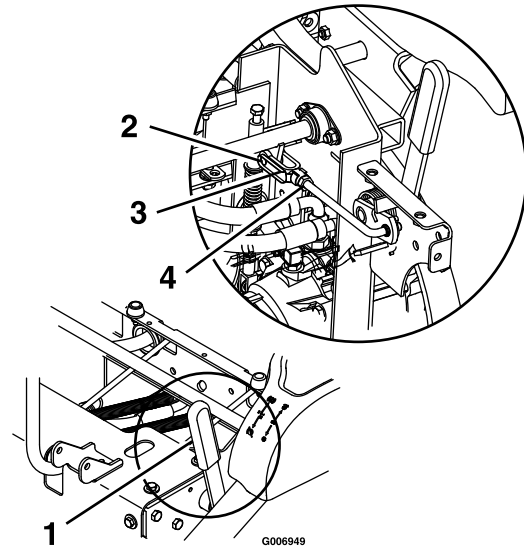

Figure 14
3. The brakes on both sides can be simultaneously adjusted by lengthening or shortening the linkage shown in Figure 14.